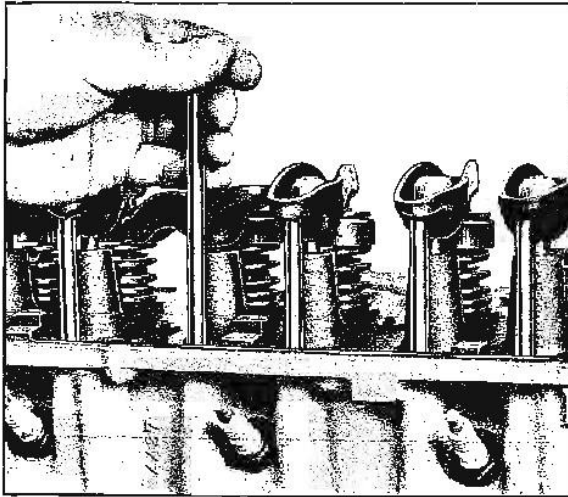

Fig. 6-16 Removing Push Rod
3. Remove push rod (Fig. 6-16) and store so that each push rod may be installed in original location.